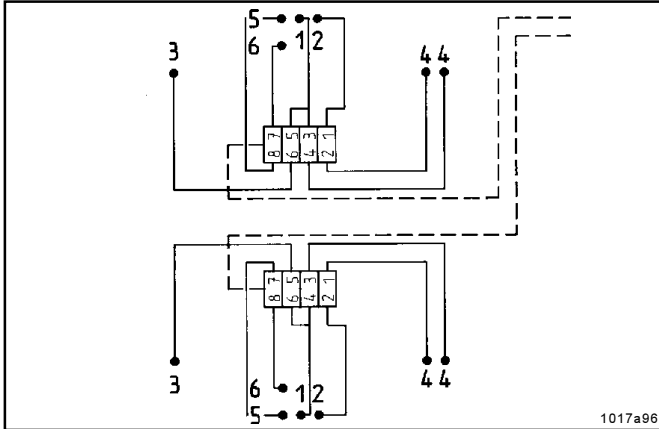

Fig. 39 - Allocating the lubrication points
- Close the outlets which are not required (see Fig. 39, outlet 5 or 6), **except for outlets 1 and 2**.